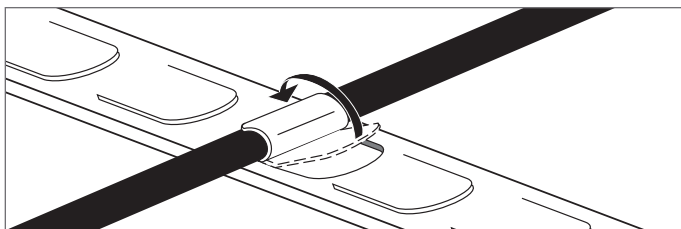

FIGURE 2.61a: Pre-Punched Stainless Steel Strapping
3. Unreel a cold lead. Secure hot/cold joint to concrete base layer by bending back the pre-punched strapping tabs. Space hot/cold joint at least 6" (150mm) in from the edge of the slab. See Figure 2.61a.
4. Unreel heating cable in a serpentine pattern over concrete base layer, spacing the runs as per installation plan. Using pre-punched strapping, secure heating cable to concrete base layer. See Figure 2.61a.